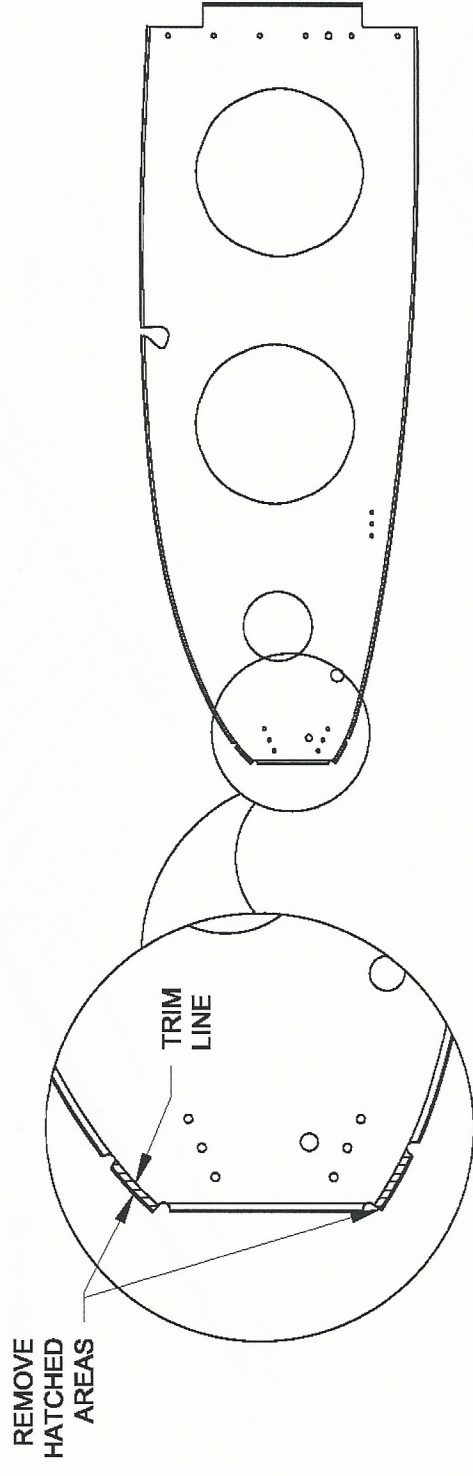

FIGURE 2: W-1208 NOSE RIB FWD FLANGE TRIM
Step 3: Take five of the 13 W-1208-L Nose Ribs that you just trimmed and trim off the upper and lower forward flanges as shown in Figure 2.
Step 4: Select the one W-1208-L Nose Rib that is untrimmed and trim the forward upper and lower flanges as shown in Figure 2.
Step 6: Select two of the seven W-1208-R Nose Ribs with the aft flange trimmed and trim the forward upper and lower flanges as shown in Figure 2.
Step 7: Select four of the seven W-1208-R Nose Ribs that are untrimmed and trim the forward upper and lower flanges as shown in Figure 2.